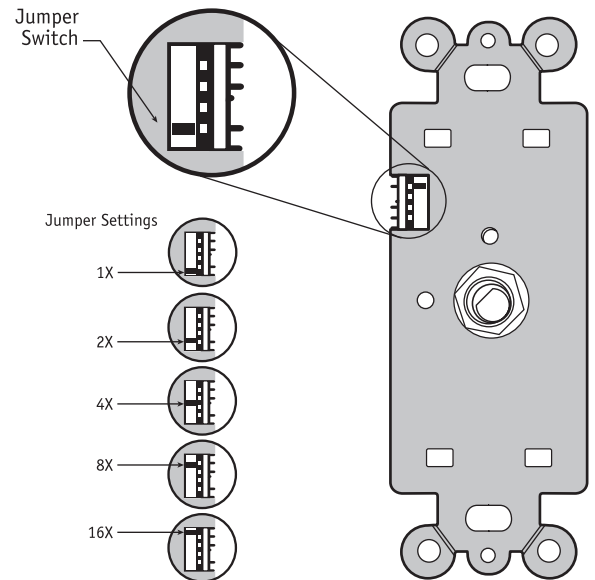

Figure 1
- 4.) Set the impedance match jumpers on all of the volume controls in the system to the same position (1X, 2X, 4X, 8X or 16X). See **Figure 1**.
NOTE: If your jumper setting switch only has four positions it may not include the 1X setting that was excluded in early production. Also some earlier production models may not show the settings on the faceplate so you will need to follow the positions shown in Figure 1 on other side of this page.